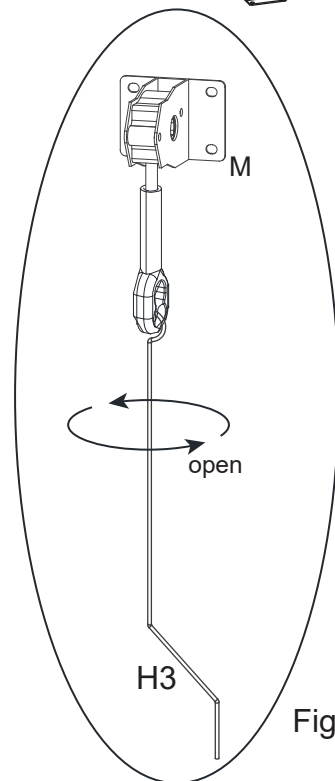

Figure 12.2
12.2 Hang the Crank (H3) on the Spinners (M) and turn to open or close the louvers. See Figure 12.2.